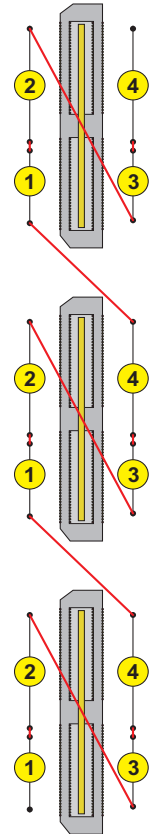

Figure 4
Virtex™-5 FPGAs have global clock trees and local clock trees. Clock Capable (CC) pins can directly clock local clock trees but not global clock trees. Local clock trees can clock the indigenous I/O bank and the direct neighboring I/O banks. This will affect HapsTrak II connectors since they contain 4 I/O banks, thus a local clock tree can not clock all of the I/O's in a connector. Figure 4 shows how the clock regions are connected in a motherboard using HapsTrak II, for instance HAPS-54. The three connectors are adjacent not only physically on the board and in the FPGA chip, but also have adjacent clock trees. For instance, I/O bank 2 in the lowest connector can clock its neighboring I/O banks 1 and 3. I/O Bank 4 in the same connector can clock its neighbor in the connector I/O bank 3, but also I/O bank 1 in the above connector.